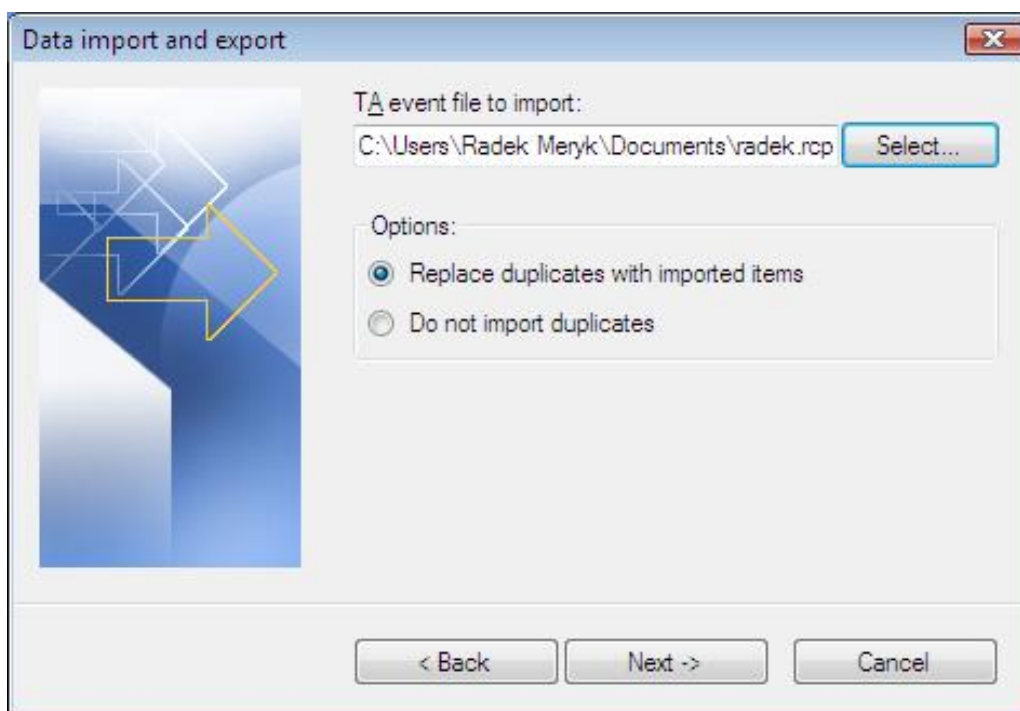

Figure 9. *Data import and export wizard — step 3*
- ◆ Step 3. Select location to your T&A event file (Figure 9). Using available options you can choose a method of resolving conflicts in case, the imported value is already in database. If you choose **Replace duplicates with imported items**, duplicate values existing in the database will be overwritten by the imported values. The **Do not import duplicates** option skips duplicated records. Two T&A events are assumed equal, if their date/time, reader ID and event type are identical.